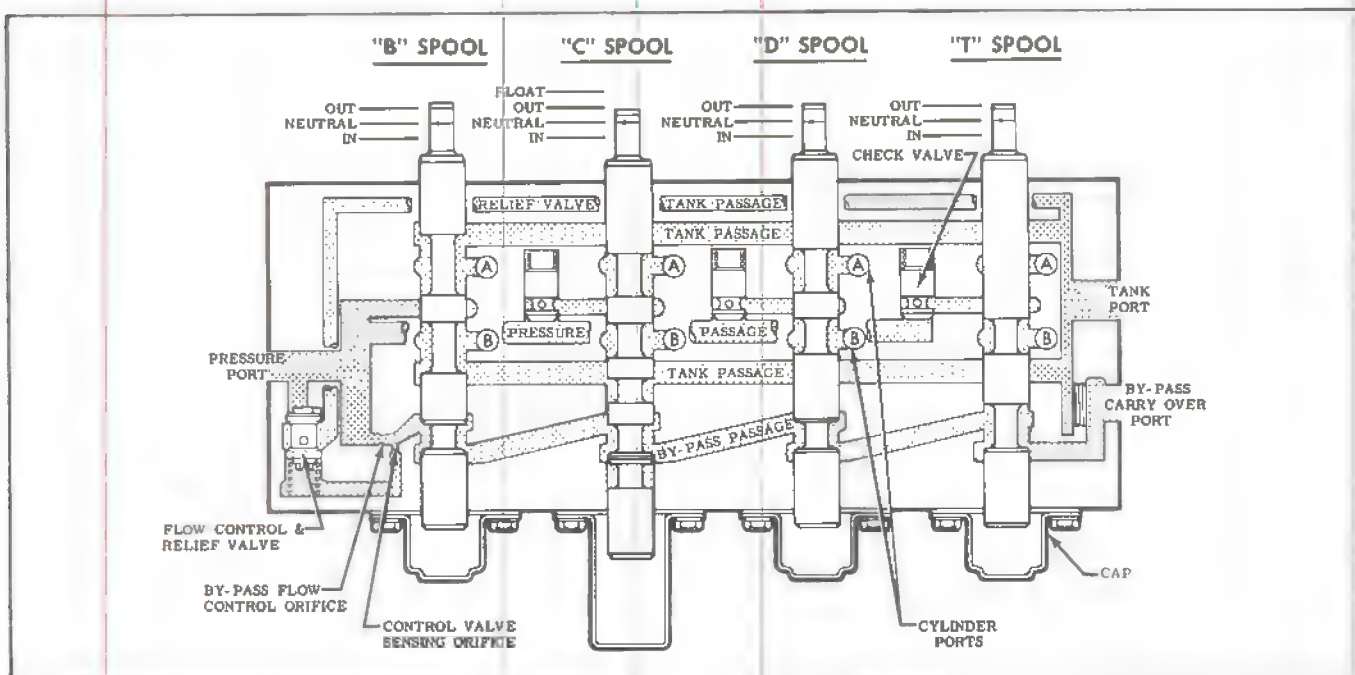
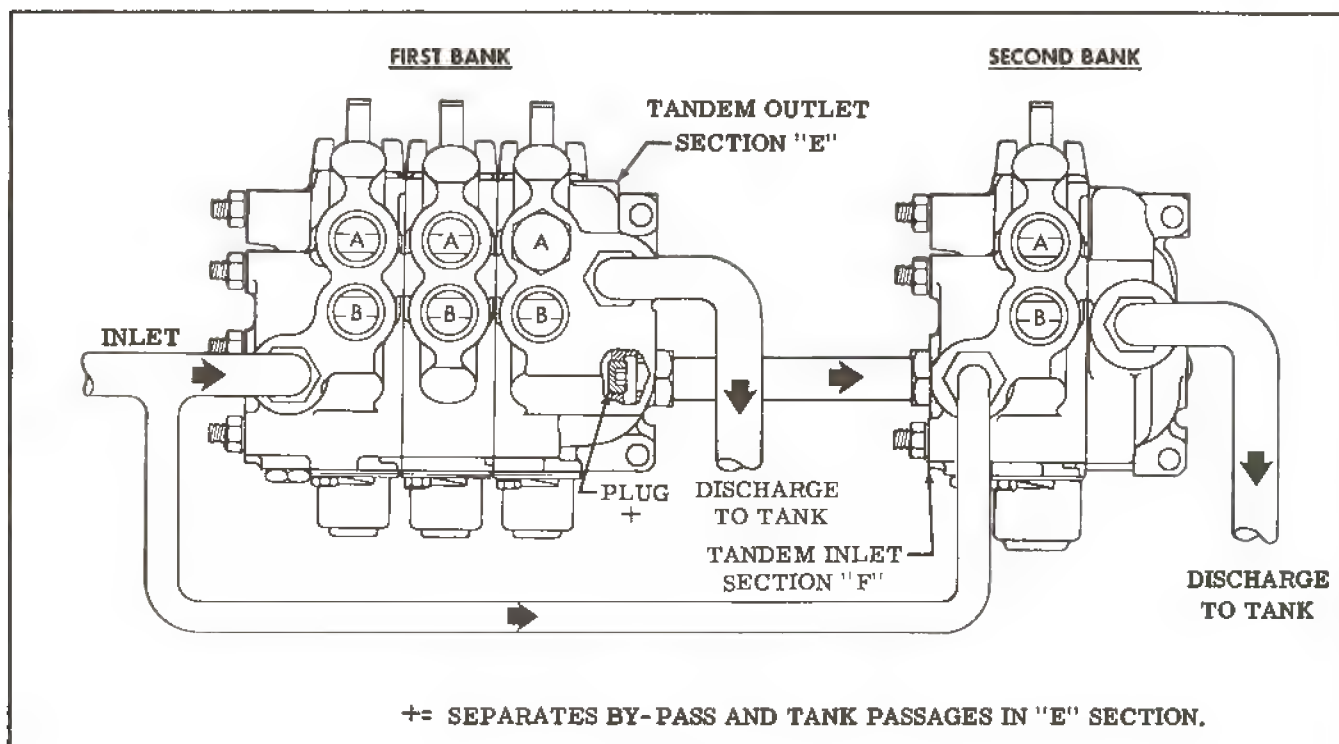

Figure 2
Figure 8
Figure 2 is a schematic illustration of a four section valve, showing the cylinder ports and the by-pass pressure and tank passages. The pressure passage is used to carry fluid to the cylinder ports when the spools are shifted. The by-pass passage permits flow directly to the outlet when the spools are not being operated. The tank passages carry fluid to the tank port by return flow from the cylinder ports or fluid diverted past the flow control and relief valve.
7. **Tandem Operation** - Tandem operation permits operation of two banks of valves from the same pumping source. An internal plug in the outlet section of the first bank (see Figure 8) separates the by-pass passage from the tank passage. Cylinder exhaust oil is returned to tank via the alternate discharge port, and by-pass oil is directed out the primary discharge port to the by-pass port of the bank.
In Figure 8, either bank can be operated separately or both simultaneously. This is possible because of the tandem by-pass connection from the inlet connection of the first bank to the F inlet connection of the second bank. If neither bank is operating, part of the fluid flows through both by-pass passages directly to tank. The balance is diverted through the tank passage of the first section as shown in Figure 2.
1. Piping arrangement for tandem series operation is shown in Figure 8.
2. The outlet section of the first bank must be an "E" section which is equipped with a plug (see Figure 8) to block the primary discharge port from tank. The discharge to tank port must be connected to tank.